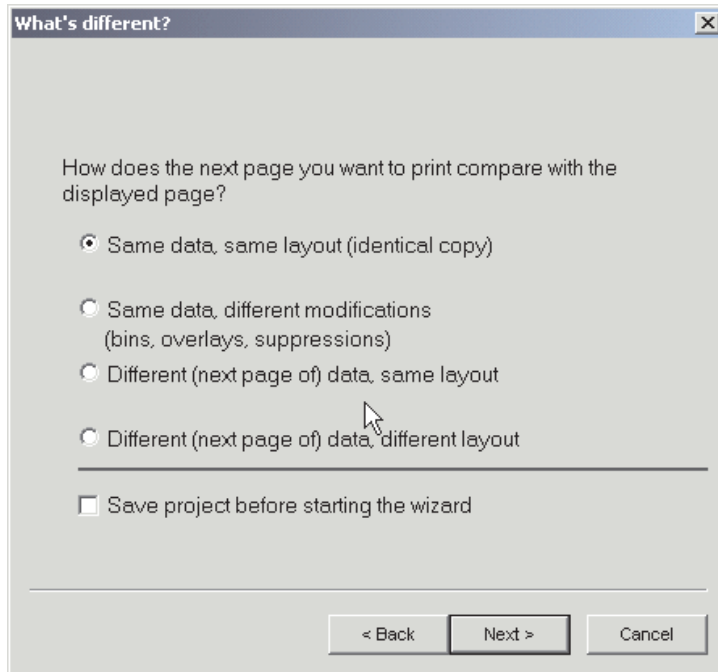

Figure 13. First page of Layout wizard for simplex project
1. Assuming you have mapped the first copy the way you want it, when you start the Layout wizard, the dialog shown in Figure 13 on page 42 opens.